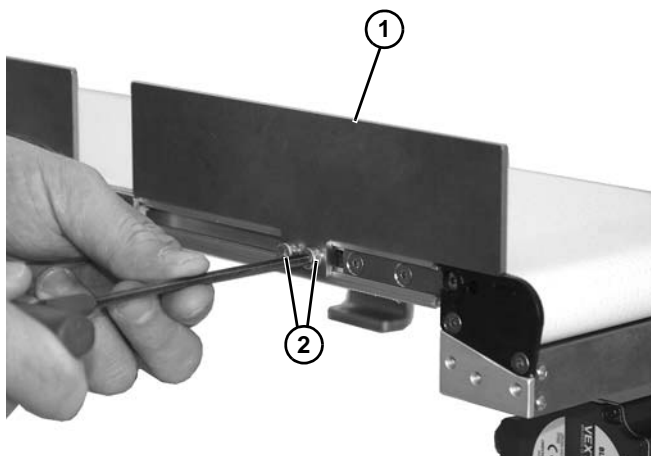

Figure 14
2. Install guiding support bracket (**Figure 14, item 1**) with two screws (**Figure 14, item 2**).